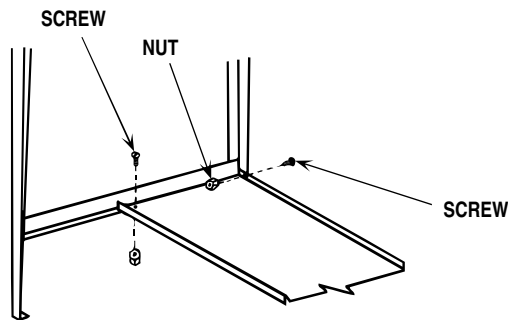

FIGURE 4
5. Attach shelf (Item 5) to the stringers in the front and to the leg assemblies in the rear with four (4) nuts and screws (Items 6 & 7) - two (2) each side as shown. See Figure 4. **Finger tighten only.**